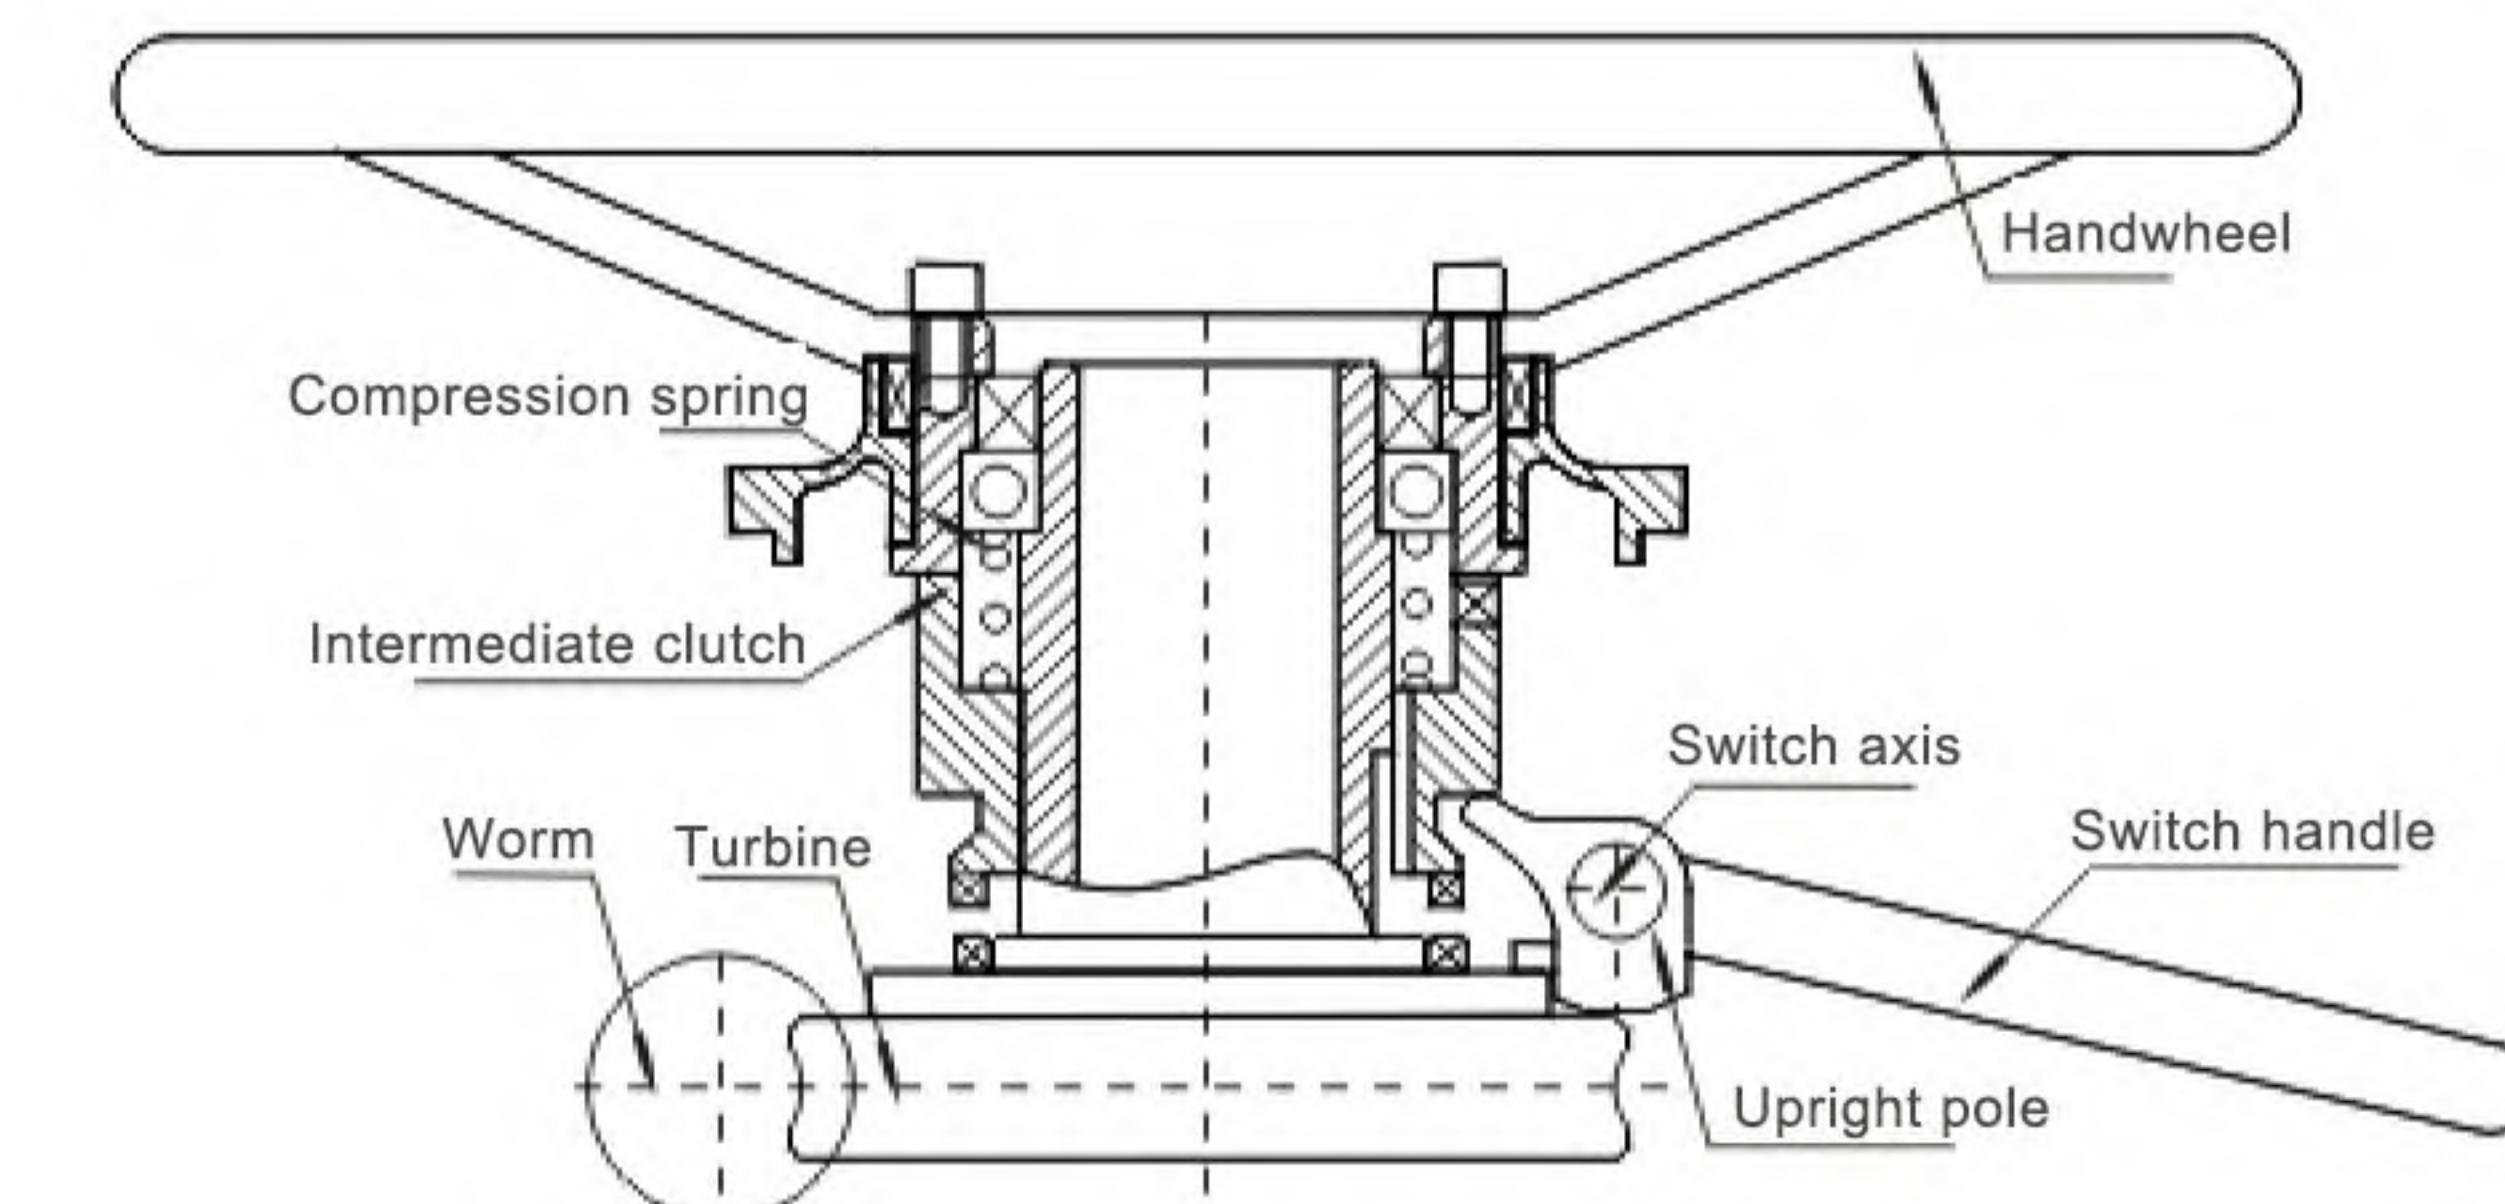

Figure 4 TOP-Z10-Z30 Manual-Electric Switching Mechanism
- Hand-Electric switching mechanism (Figure 4): It is semi-automatic switching, the switch handle needs to be pulled to switch from electric to manual operation, and the switch handle is automatically changed from manual to automatic (no need to pull the switch handle) o Change from electric to manual At the time, manually pull the switch handle to move the middle clutch on the output shaft upward and compress the spring. When the handle is pushed to a certain position, the clutch disengages from the worm gear and engages with the manual shaft pawl, so that the force on the handwheel can be transmitted to the output shaft through the intermediate clutch, which becomes the manual state. When the manual is changed to electric, it will switch automatically. When the motor rotates to drive the worm gear to rotate, the upright rod will immediately fall down. Under the action of the compression spring, the intermediate clutch quickly moves in the direction of the worm gear.